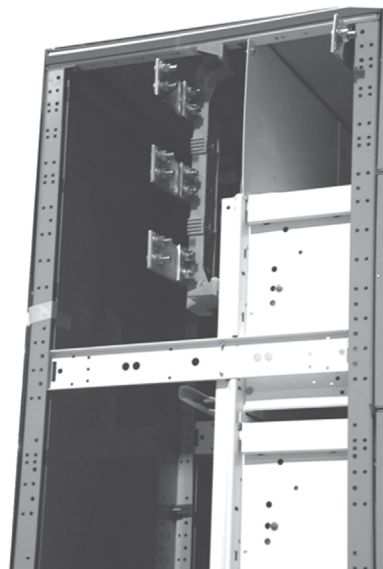

Figure 4. Splice plates attached to right-hand section
2. The horizontal bus splice plates and connection hardware will be shipped with the MCC attached to one end of shipping section. Refer to **Figure 4**.